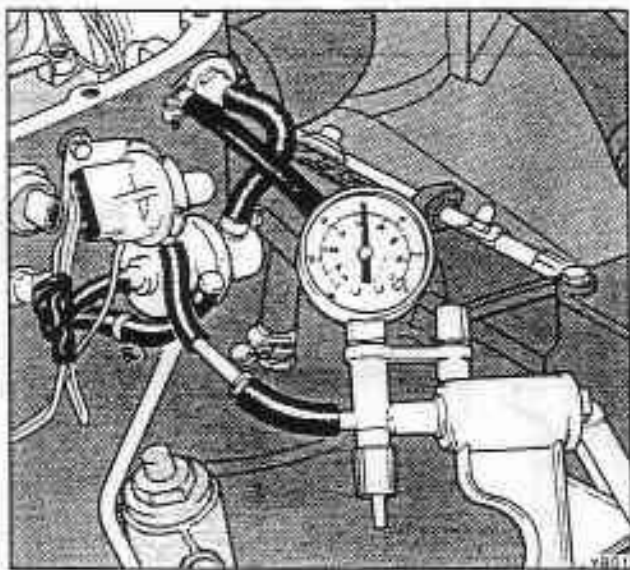

Fig. K11-31 Checking the dump valve and control system
1. Disconnect and blank the vacuum hose to the dump valve switch situated at the rear of the air chest (see fig. K11-31).